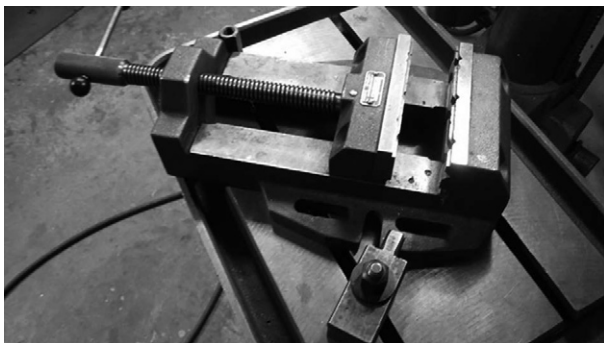

Figure 3 - Fastening the table vice on the table, example.
- Depth gauge and Depth gauge rod (3) must never be removed from the machine.
- Make sure that the work piece is securely fastened at the table, see the examples in figure 3 and 4.